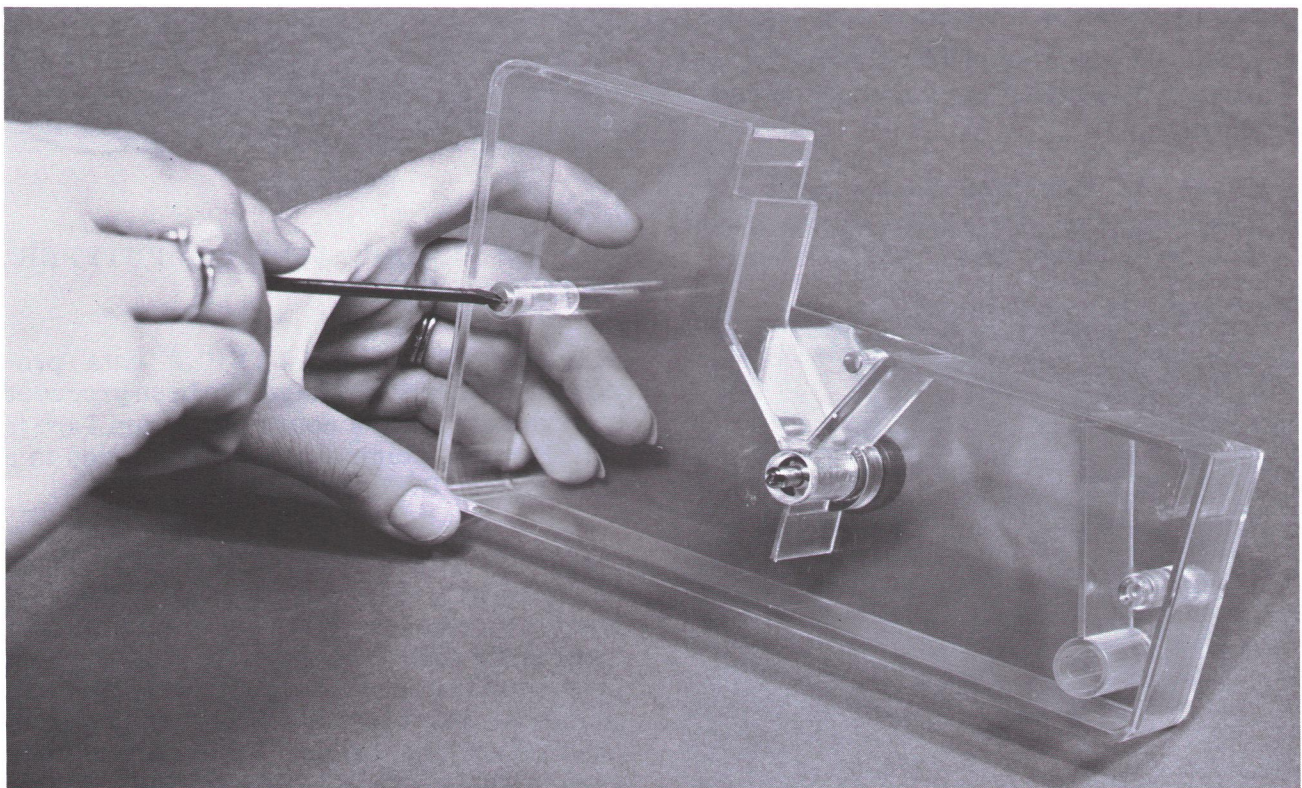

Figure 11. Screws to remove cover of cartridge.
2. Open the plastic cartridge by removing the two screws in the cover. (See figure 11.)